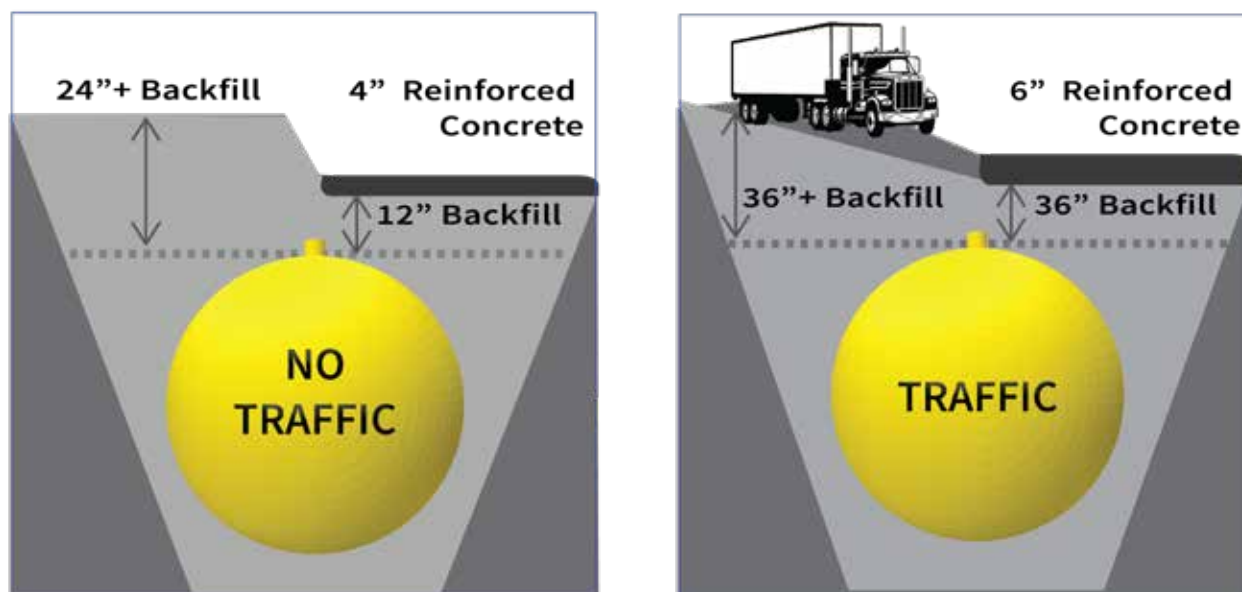

Figure 10: Minimum Burial Depth/Type of Cover Non-Traffic (Left) Traffic Rated (Right)
- ✓ Tanks with HS20 traffic loads (32,000 lbs./axle) must have a minimum of 36" backfill cover, or 18" backfill plus 6" Reinforced Concrete, Reference Figure 10.